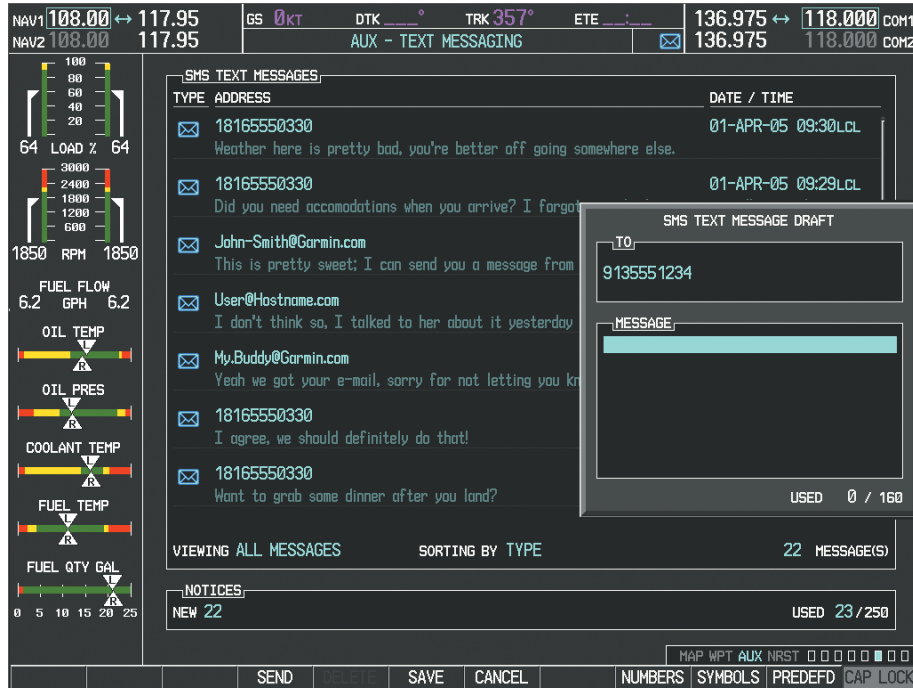

Figure 8-94 Composing a New Text Message
- 3) Press the **ENT** Key. The cursor is now displayed in the 'MESSAGE' field (Figure 8-94).